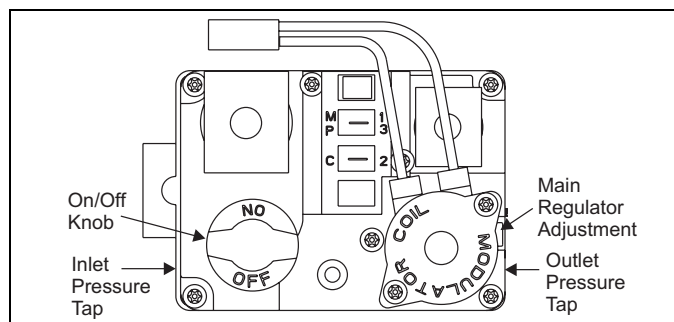

FIGURE 28: Gas Valve
Follow the appropriate section in the instructions below. Refer to Figure 28 for a drawing of the locations of the pressure ports on the gas valve.
4. Refer to Figure 28 for location of pressure regulator adjustment cap and adjustment screws on main gas valve.